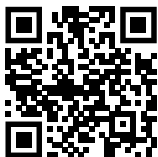

Fig. 154
- ▶ Otevřete Liebherr SmartMonitoring Dashboard. (viz Fig. 154)